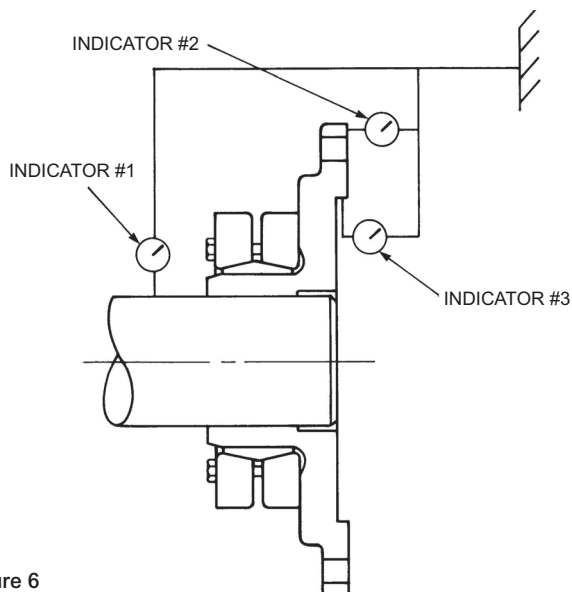

Figure 6
2. Check both shafts for runout to ensure shafts are not bent. Refer to Figure 6, page 3.
- (3) Check that the hub is correctly positioned on the shaft, then using dial indicators, check hub runout as illustrated in Figure 6. Checking the hub runout ensures correctness of hub mounting and will reduce drive movement. Make sure runout values do not exceed limits listed in Table 3. If runout is excessive, remove hub following the removal instructions, carefully remount the hub to the shaft, and recheck hub runout.
- (4) Proceed to Step 6. b. below for installation of Type 4 hub with shrink disc, or to Step 7, page 3, for balance of installation.
- (8) Make certain that screws will no longer turn by applying specified torque — only then is the installation complete. Make sure that both collars are still parallel. Correct if not.
- (9) Check that the hub is correctly positioned on the shaft, then using dial indicators, check hub runout as illustrated in Figure 6. Checking the hub runout ensures correctness of hub mounting and will reduce drive movement. Make sure runout values do not exceed limits listed in Table 3. If runout is excessive, reverse the hub assembly procedure, carefully reassemble, and recheck hub runout. Recheck all fasteners to be sure they are torqued to specified values in Table 1.